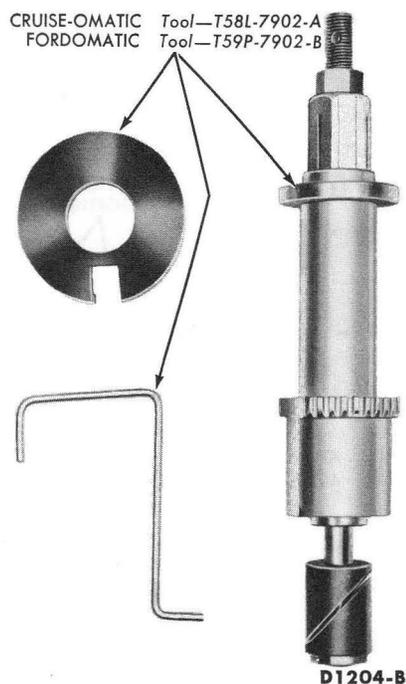

FIG. 1—Converter Checking Tool
A special tool (Fig. 1) must be used to check the condition of the converter. This special tool is used to check the turbine and stator end play and the operation of the one-way stator clutch.
3. As the tool enters the converter, the spline on the tool (Fig. 1) will engage the stator clutch inner race spline.